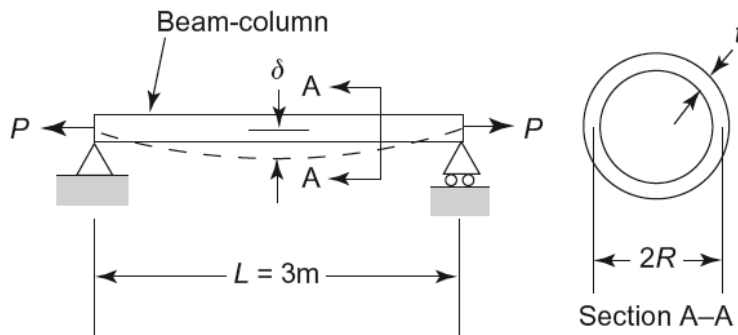

FIGURE E2.24 Graphic of a hollow circular beam-column.
Design a hollow circular beam-column, shown in Figure E2.24, for two conditions: When the axial tensile load $P=50$ (kN), the axial stress σ must not exceed an allowable value σ_a , and when $P=0$, deflection δ due to self-weight should satisfy the limit $\delta \leq 0.001L$. The limits for dimensions are: thickness $t=0.10$ to 1.0 cm, mean radius $R=2.0$ to 20.0 cm, and $R/t \leq 20$ (AISC, 2005). Formulate the minimum-weight design problem and transcribe it into the standard form. Use the following data: deflection $\delta=5wL^4/384EI$; w =self-weight force/length (N/m); $\sigma_a=250$ MPa; modulus of elasticity $E=210$ GPa; mass density of beam material $\rho=7800$ kg/m³; axial stress under load P , $\sigma=P/A$; gravitational constant $g=9.80$ m/s²; cross-sectional area $A = 2\pi Rt$ (m²); moment of inertia of beam cross-section $I=\pi R^3 t$ (m⁴). Use Newton (N) and millimeters (mm) as units in the formulation.
Given: The maximum and minimum dimensions of t and R and the maximum ratio for R/t , the equations to calculate displacement, δ , axial stress, σ , cross-sectional area, moment of inertia, and the distributed force, w , the allowable axial stress, the modulus of elasticity, the mass density of the beam material, the gravitational constant, and the data shown in Figure E2.24. In addition, when $P=50$ kN, the stress must not exceed σ_a and when $P=0$ kN, deflection due to self-weight must satisfy $\delta \leq 0.001L$.
Required: It is desired to create a beam design, as shown in Figure E2.24, which will minimize the mass of the beam, under the two conditions described above.